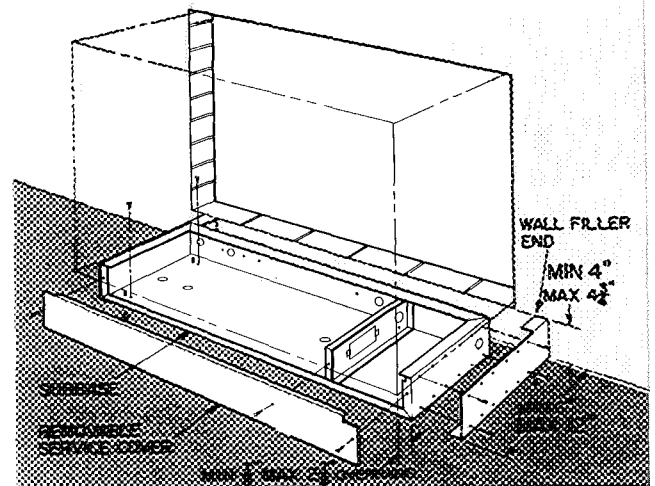

Fig. 2 - Subbase Installation
**The Accessory Subbase** shown in Fig. 2 must be used with all 277-volt units and *whenever walls are less than 4-in. thick.* Be sure to allow for a 4-in. minimum clearance between the bottom of the installed Wallmate unit and the floor covering to permit proper air circulation and servicing of the filter. Complete installation instructions are shipped with the accessory subbase.
**Center the Subbase** in front of the wall opening, allowing the wall sleeve to extend past the front edge of the subbase by  $\frac{7}{8}$  in. to  $2\frac{7}{8}$  in. providing clearance for the wire raceway when used. See Fig. 2. Wall filler ends are adjustable to accommodate varying distances from inside wall to front of sleeve as shown in Fig. 2. Determine the correct distance and assemble the wall filler ends to the subbase with the No. 8 self-tapping screws provided. Level the subbase flush with the wall opening, using the leveling screws provided in the subbase and the wall filler ends. Secure the subbase to the floor with field-supplied screws.
**Install Wall Sleeve** in this manner: Set the sleeve on the subbase and slide it thru the wall opening so a minimum of 1/4-in. of the sleeve projects beyond the outside wall. Remove the inner closure panel. Drill four 9/64-in. diameter holes thru the bottom of the sleeve and the top flange of the subbase. Secure the wall sleeve to the subbase with the no. 8 self-tapping screws provided. Apply waterproof mastic under the screw heads before tightening them. Reinstall the closure panel. Attach the removable service cover to the subbase as shown in Fig. 2, using the no. 8 sheet metal screws provided.